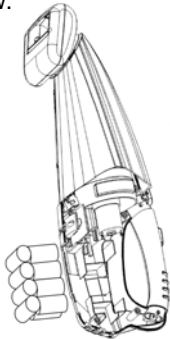

Fig. 8
- Carefully lift out battery pack and disconnect the terminals. (Fig. 8)